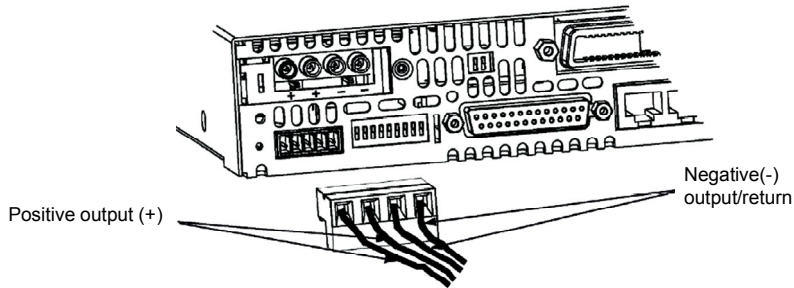

Fig.2-4: Load wires connection to the output connector
3. Insert the stripped wires into the terminal and tighten the terminal screw securely (see Fig.2-4).